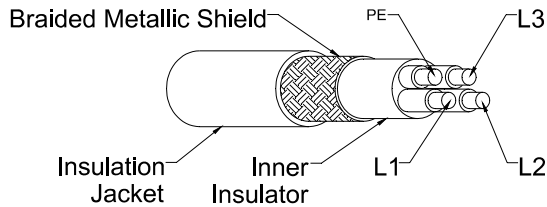

Figure 2a
- Braided copper shielding of 85% density or more (as shown in figure 2a).